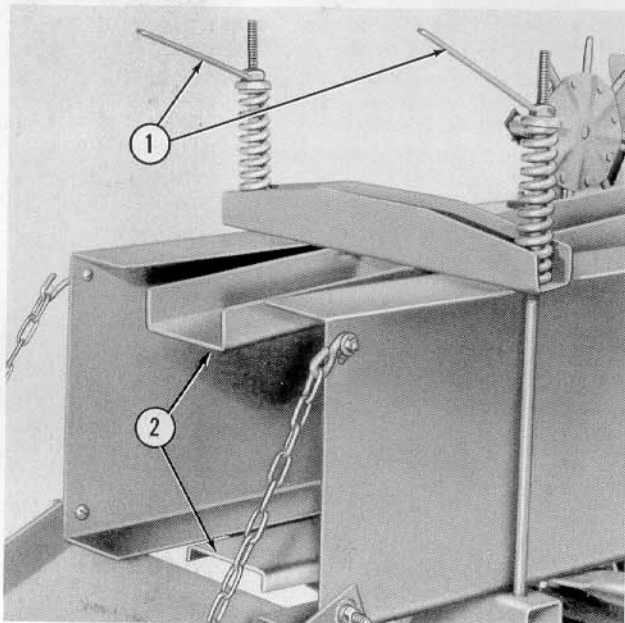

Figure 8
Bale Tension: The Ford Hay Baler is equipped with spring loaded bale tension bars (2), Figure 8, which compensate for moderate variations in the crop being baled.
Different crops and varying moisture content may make it necessary to use more or less tension than is provided automatically. Coarse or green material requires less tension, while dry or fluffy materials require more tension. To apply more tension to the bales, tighten the tension handles (1), Figure 8. Decrease the bale tension by loosening the same handles.